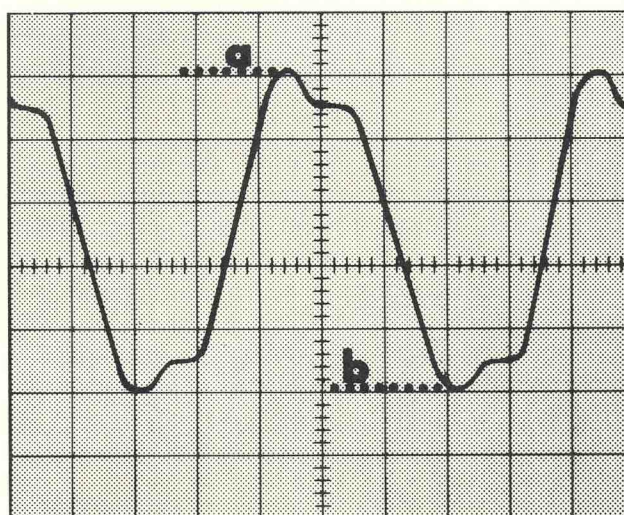

Fig. 2-3. Measurement of peak-to-peak signal amplitude.
In measuring signal amplitudes it is important to remember that the width of the trace may be an appreciable part of the overall measurement. This is particularly true when measuring signals of small amplitude. All measurements should be consistently made from the same part of the trace--the top, center or bottom. If the center of the trace is used for one reading, it should be used for all subsequent readings. Notice that points "a" and "b" in Figure 2-3 correspond to the center of the trace.
5. The final number is the voltage difference between the maximum and minimum peaks of the input signal. $\text{DEFLECTION} \times \text{VOLTS/CM} \times \text{ATTENUATION} = \text{VOLTAGE}$. For example, in Figure 2-3, the vertical deflection between "a" and "b" is 4.0 cm. If the AC-DC switch is at AC, the VOLTS/CM switch at .5 (black numbers), and the signal is applied through a 10X probe, the voltage calculation would be: $(4.0 \text{ cm}) \times (0.5 \text{ VOLTS/CM}) \times (10) = 20.0 \text{ volts}$.